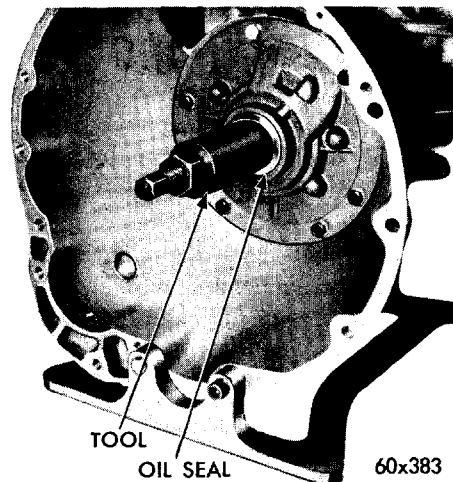

Fig. 41—Removing Front Pump Oil Seal
(1) Screw seal remover, Tool C-3758 into the seal (Fig. 41). Tighten screw portion of tool to withdraw the seal.